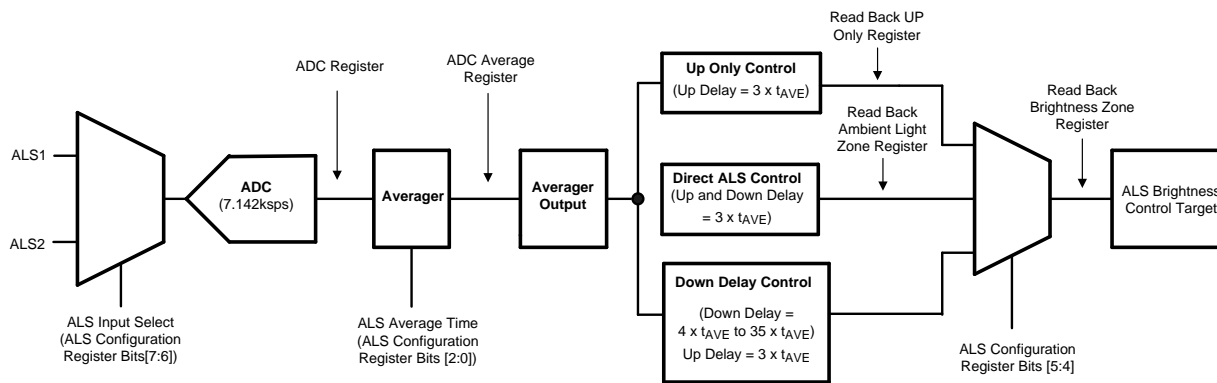

Figure 16. ALS Functional Block Diagram
5. The Averager Output (see Figure 16) contains the zone that is determined from the most recent full average period.